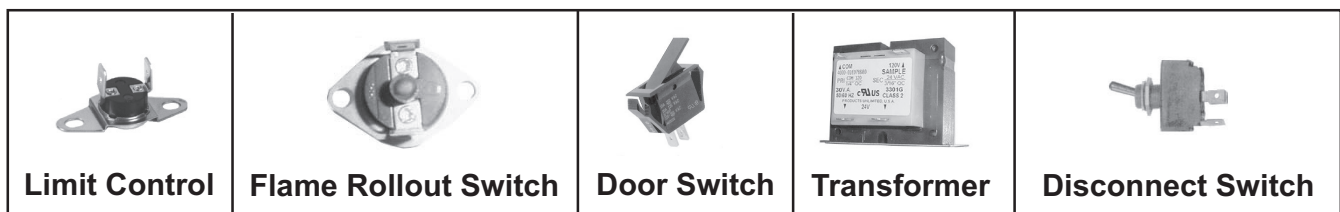

Figure 19. Replaceable Components
If it is determined that the high temperature limit control (see Figure 19) needs replacing, use only a factory-authorized replacement part that is designed for the size of heater. For the approximate limit control location, see Figure 11.
If it is determined that the interlock door switch (see Figure 19) needs replacing, use only a factory-authorized replacement part that is designed for the heater. For the approximate door switch location, see Figure 11.
- The cause of a flame rollout switch (see Figure 19) activating must be determined. Activation of the manually-reset flame rollout switch could be caused by one or more of the following:
Use a voltmeter to verify that there are 24V output from the transformer (see Figure 19). If the transformer is not functioning, it must be replaced. Use a replacement transformer identical to the factory-installed model. For the transformer location, see Figure 11.
If it is determined that the disconnect switch (see Figure 19) needs replacing, use only the factory-authorized replacement part that is designed for the heater. Always replace the electrical box cover.